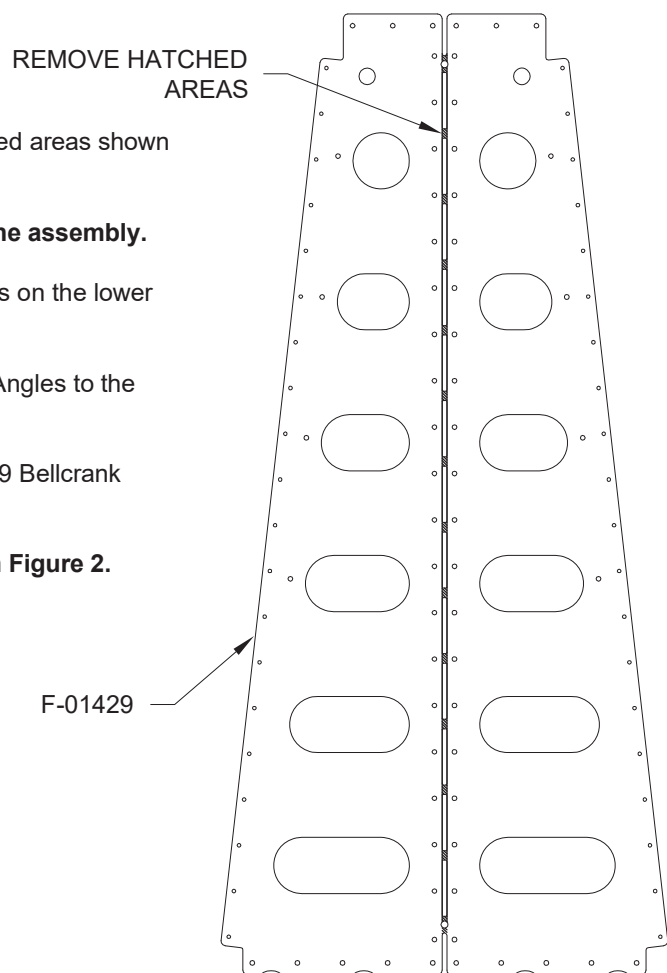

FIGURE 1: SEPARATE BELLCRANK RIBS (SHOWN FLAT)
Step 3: Cleco then final-drill #30 the F-1037B and F-1037C Battery Angles to the F-01429-L & -R Ribs as shown in Figure 1.